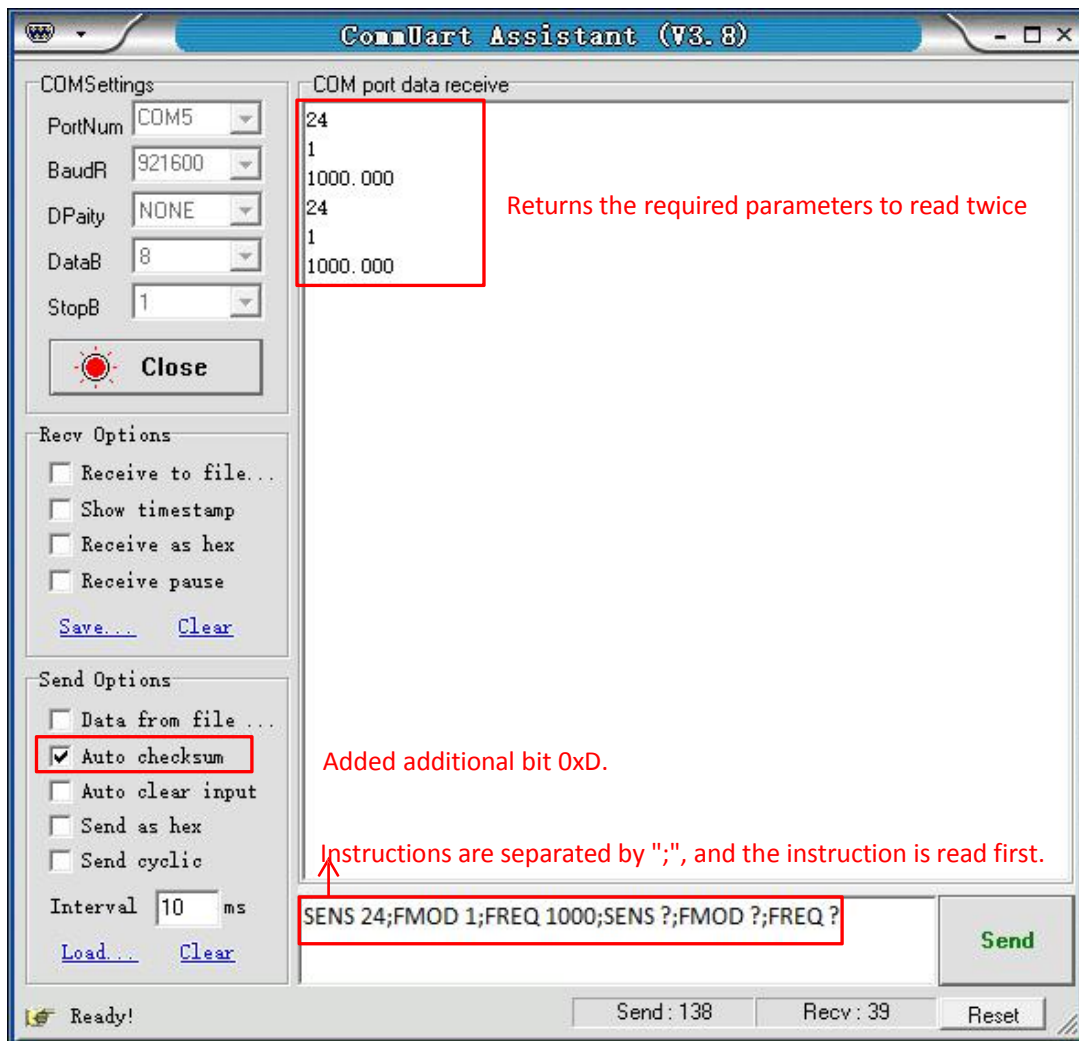

Fig.78 The execution of multiple commands
(3) Multiple commands are separated by “;”, such as “SENS 24;FMOD 1;FREQ 1000;SENS ?;FMOD ?; FREQ ?”, as is shown in Fig.78.